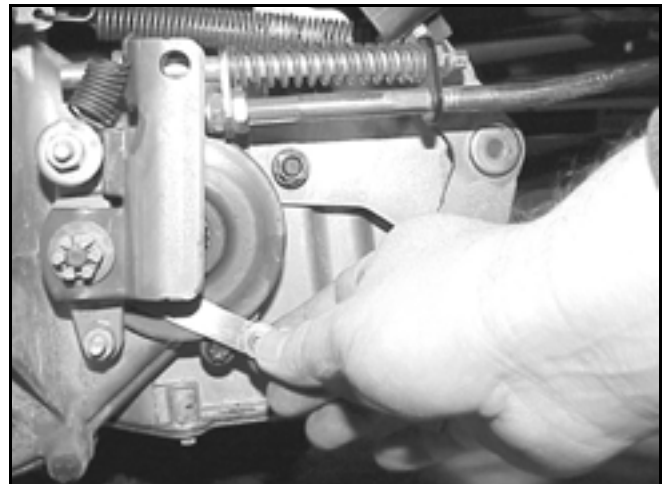

Figure 146
4. Carefully insert a 0.020” (.508mm) feeler gauge between the outer brake pad and rotor disc (Figure 146).